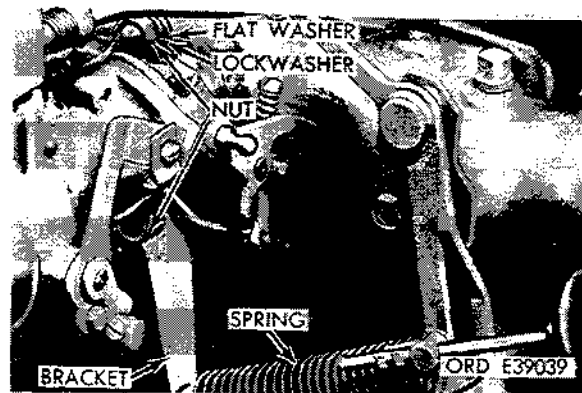

Figure 2-96. Remove spring and spring bracket.
(7) Remove retracting spring. Remove two carburetor mounting nuts, lockwashers and flat washers. Remove accelerator retracting spring bracket (fig. 2-96).